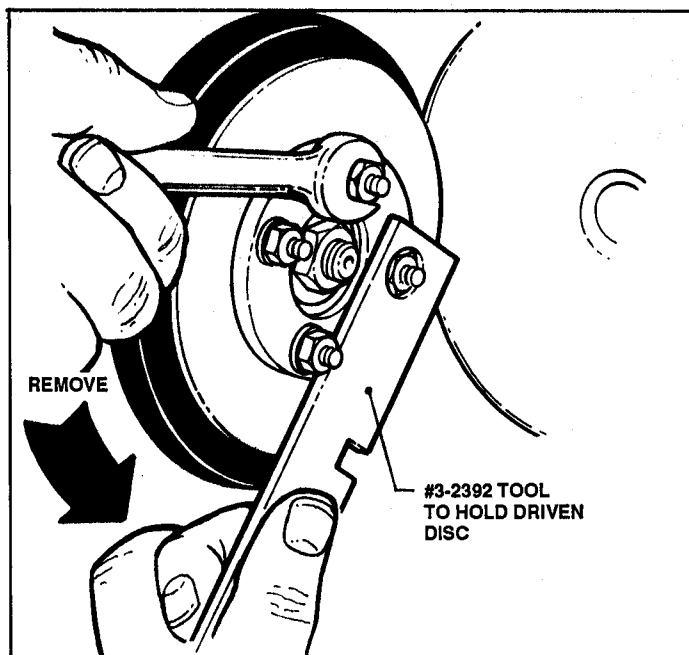

FIGURE 4.10
- A. Use a $1/2"$ socket wrench to remove the retaining nuts and split lockwashers. Turn nuts counterclockwise to remove. Use #3-2392 SPECIAL SMOOTH CLUTCH TOOL to hold the driven disc to prevent its turning while removing or installing retaining nuts. See Figure 4.10.